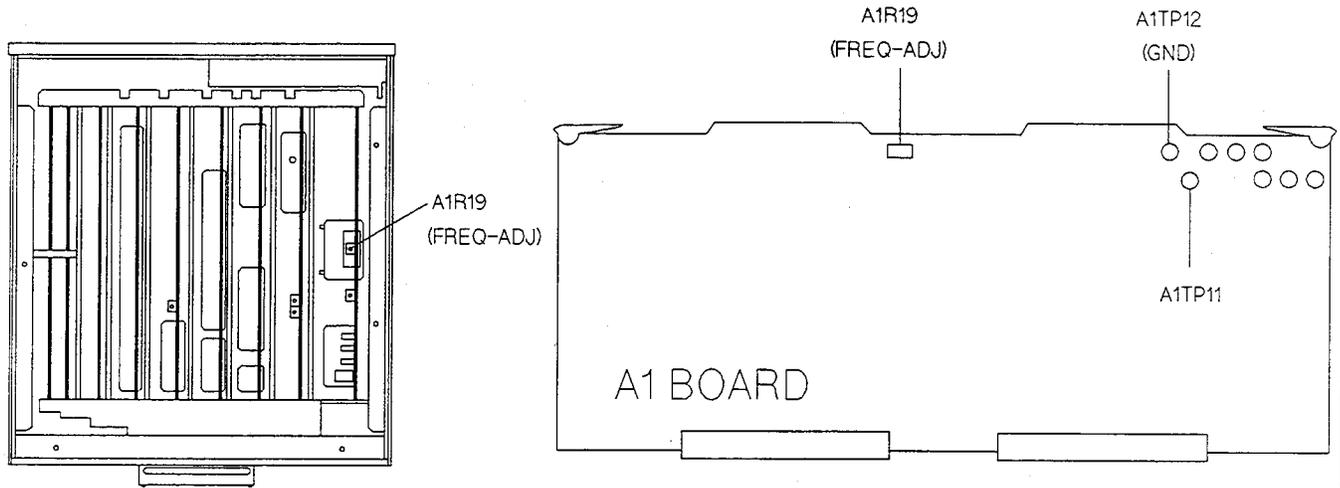
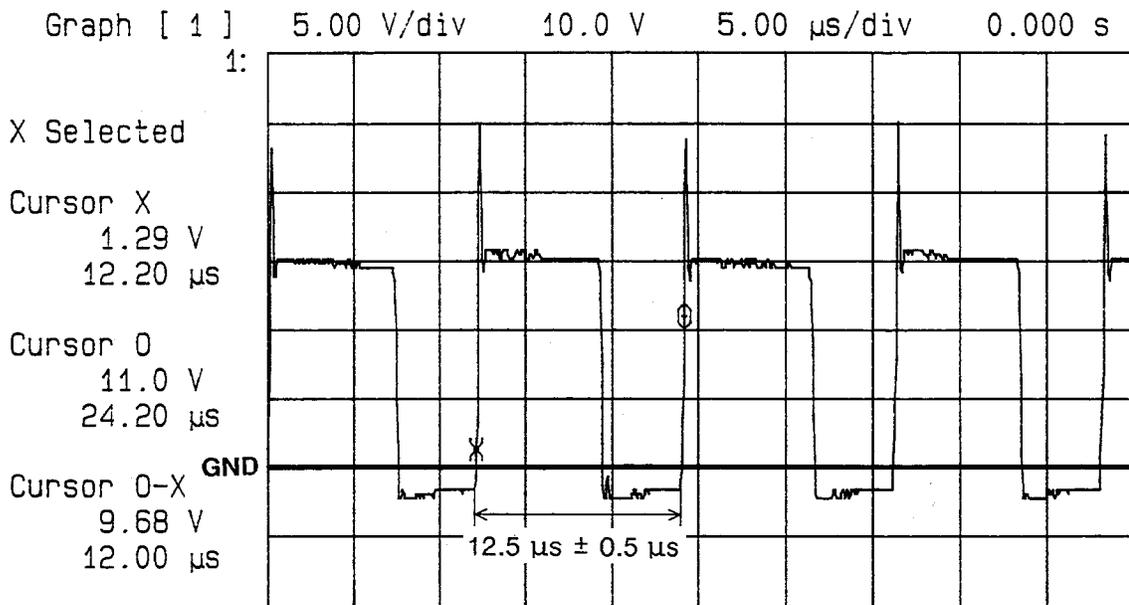

Figure 2-4. Power Supply Frequency Adjustment Location
Figure 2-5. Switching Waveform
4. Connect the probe's ground lead to A1TP12 (**GND**). Then connect the probe's tip to A1TP11. Figure 2-4 shows the location of TP11 and TP12.
7. Adjust A1R19 (FREQ-ADJ) until the period (T), of the waveform, is 12.5  $\mu$ s  $\pm$  0.5  $\mu$ s, as shown in Figure 2-5. Figure 2-4 shows A1R19's location.